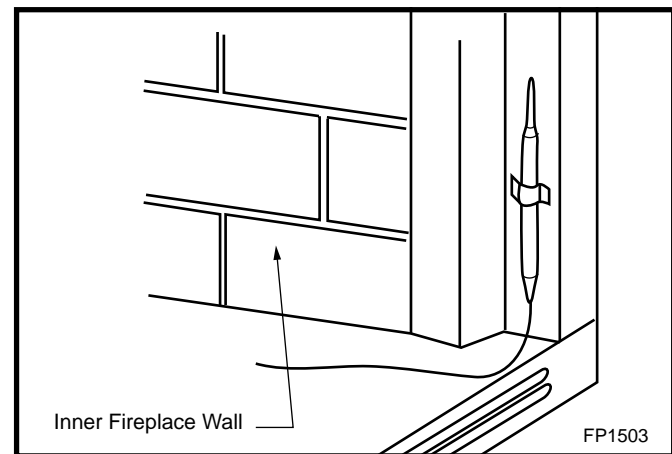

Fig. 10 Sensing bulb in prefabricated fireplace.
4. If you have a factory built metal fireplace, refer to Figure 10.